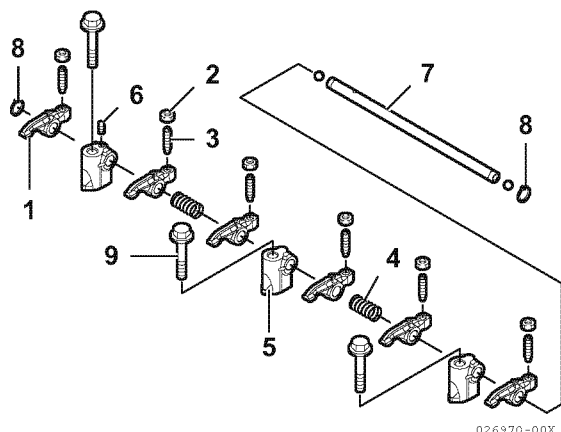

Figure 6-5
1. Remove the rocker arm shaft alignment setscrew (**Figure 6-5, (6)**) from support.
2. Remove two circlips (**Figure 6-5, (8)**).
3. Slide the rocker arm shaft (**Figure 6-5, (7)**) out of the rocker arm supports (**Figure 6-5, (5)**), springs (**Figure 6-5, (4)**) and rocker arms (**Figure 6-5, (1)**).
4. Remove the valve adjusting screw (**Figure 6-5, (3)**) and lock nut (**Figure 6-5, (2)**) from the rocker arms. Mark parts so they can be installed on the same rocker arm.